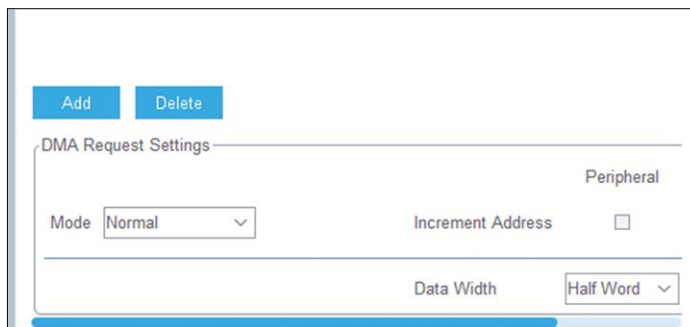

Figure 8.19: Selecting DMA mode and data width.
- Set **Mode** to **Normal** and **Data Width** to **Half Word** (Figure 8.19)